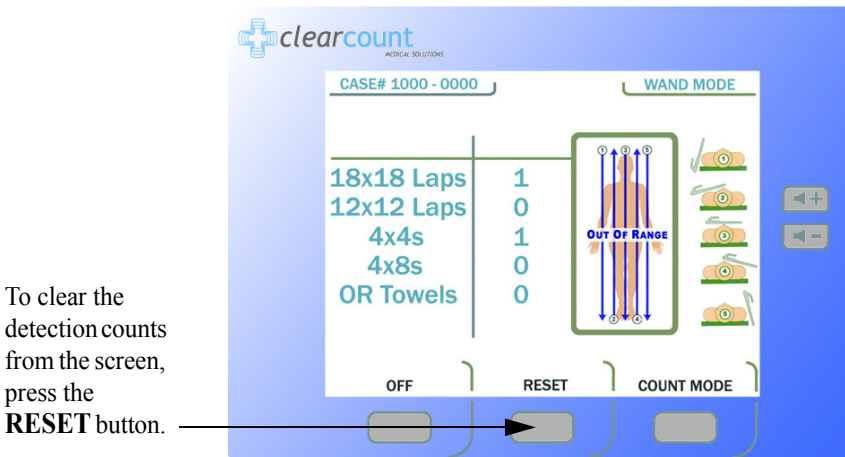
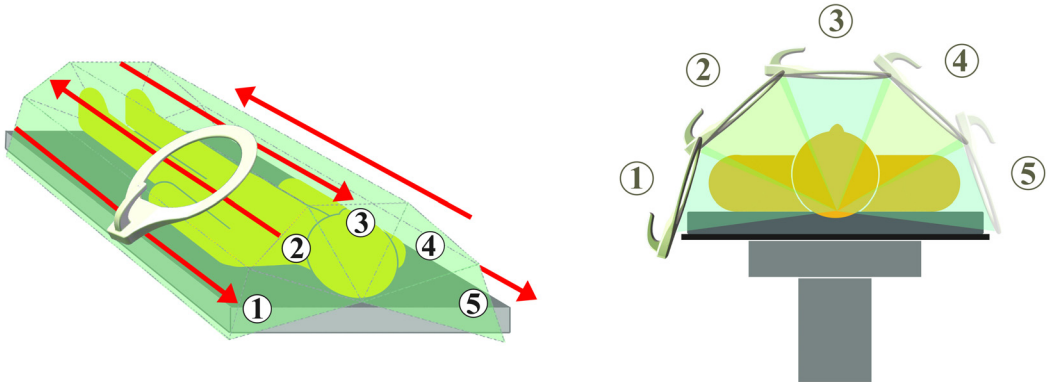

Figure 2-10 Wand Mode Screen
Figure 2-11 Patient Scan Procedure
The SmartWand may be used to scan patients for retained SmartSponge System sponges and towels at any point during the surgery. Onscreen instructions guide the user on performing a patient scan. If the SmartWand detects a retained item(s) in a patient, the red indicator on the wand flashes and the screen displays the type and quantity as shown in Figure 2-10.
- Step 3 Press the **WAND MODE** button on the **Count** Mode screen to activate the wand. The **Wand** Mode screen shown in Figure 2-10 will then appear.
Step 5 Slowly scan the patient from head to toe moving at a rate of 0.2 meters a second (7 inches/sec), holding the SmartWand 1 to 3 inches above the patient. Follow the onscreen instructions shown in figure 2-10. It is important to do all the scans(1-5) in order to most accurately identify potential retained sponges.(Figure 2-11)